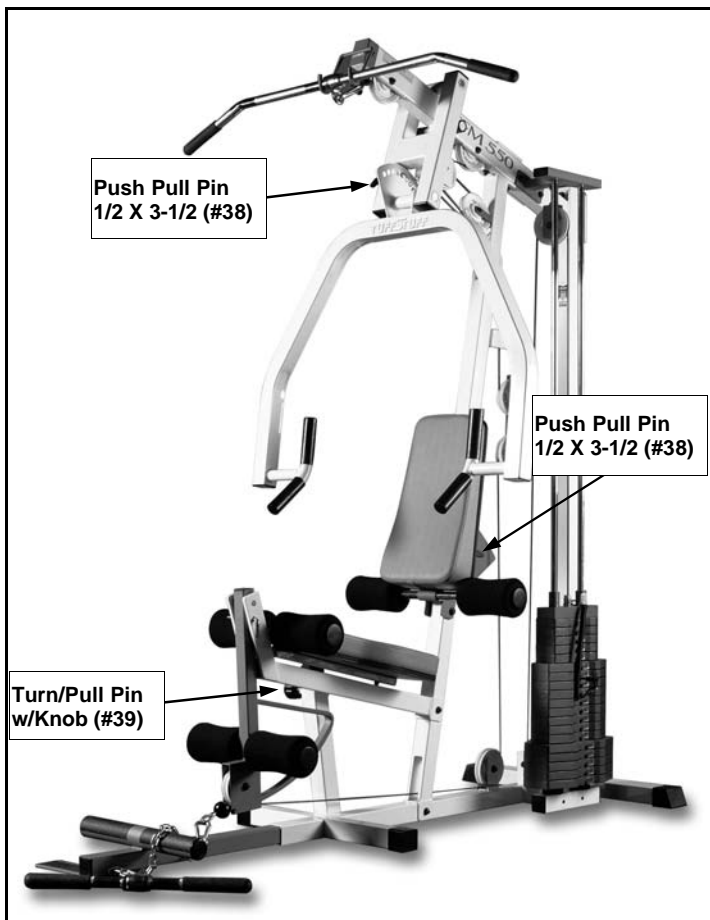

Fig. 1 Illustration above depicts the location of the Push Pull Pins 1/2" X 3-1/2 (#38) and the Turn/Pull Pin w/ Knob (#39) on this unit.
9. Pay special attention to the **Push Pull Pins 1/2 X 3-1/2 (#38)** located on the **Press Bar Selector Housing (#7)**, and the **Front Upright (#5)**, also the **Turn/Pull Pin w/ Knob (#39)** located on the **Leg Extension Bench Frame (#4)**. See Fig.1. Be sure they are fully engaged into the selected holes. Refer to Fig. 2, 3 for further illustration of this instruction.